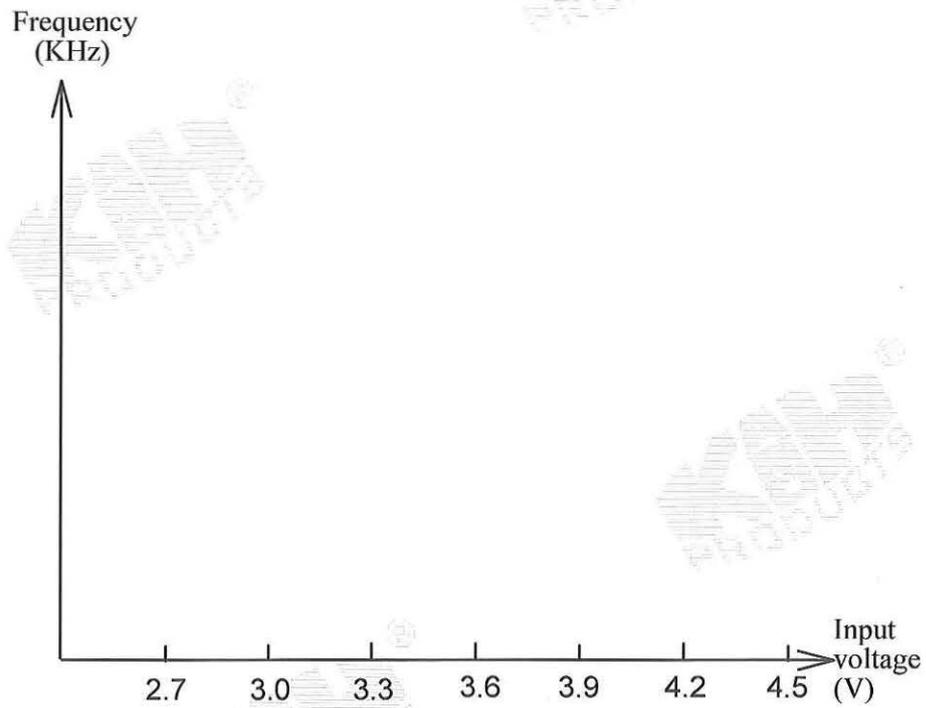

Fig.7-7
4. Using the results of Table 7-3, plot the frequency vs. voltage curve in Fig. 7-7.